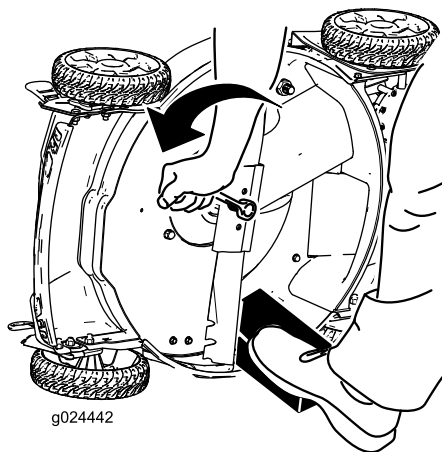

Figure 24
3. Use a block of wood to hold the blade steady (Figure 24).